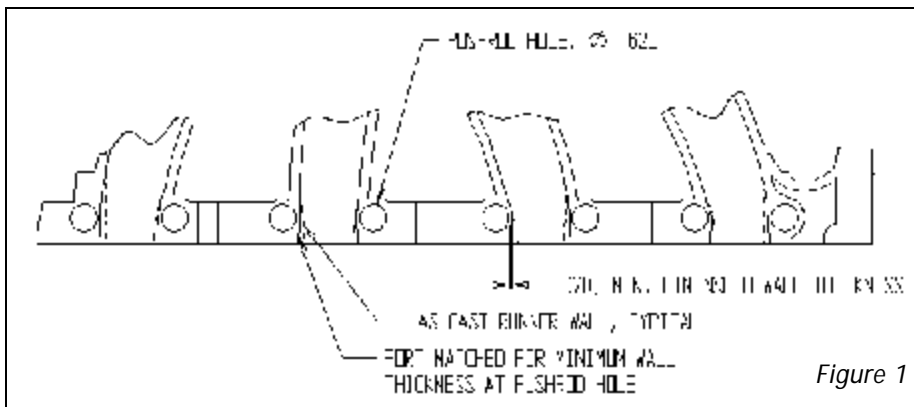

Figure 1
Port Matching: For optimum performance results, the 29365/29375 Victor EFI intake manifold will require port matching. The as-cast runner exits look smaller than would be normal for a Victor level intake manifold. The runner passages are necked down as they pass by the pushrod holes to provide a conservative amount of material for the drilling of the pushrod holes. For optimum performance, the cross-sectional area of the runner as it passes by the pushrod holes should be maximized. Port matching should produce a minimum wall thickness between the machined pushrod holes and the runners of not less than .070" (See Figure 1). Port matching in the runner to gain all of the possible area near the pushrod hole must be done accurately. It is recommended to remove the material adjacent to the pushrod holes by accurately machining these areas (using a mill), indicating off each pushrod hole to be able to maintain accurate wall thickness. If a pushrod hole is broken into or if it is desired to port the runners until they break into the pushrod holes, thin wall brass tubing (5/8" o.d. x .015" wall) to sleeve the pushrod holes is available from model building supply companies. The pushrod holes should still clear the pushrod with the .015" wall tube installed. If it is desired to have a 5/8" diameter pushrod hole after sleeving, then the hole will need to be reamed to 21/32" and a 21/32" o.d. X .015" wall tube will need to be used. The tube will need to be sealed with a two-part epoxy adhesive to prevent oil from being sucked into the intake manifold. A good epoxy is available from CV Products, P/N CV101 Epoxy (Phone Number (800) 448-1223).